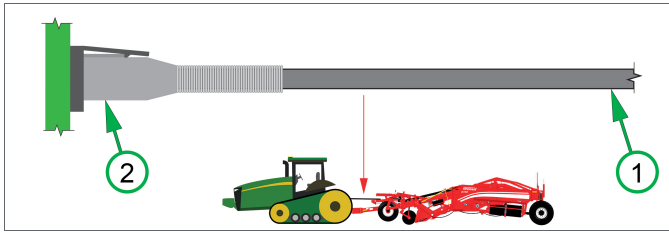

Figure 6
Connect the (2) Tractor Lighting connector on the windrower (1) Tractor Lights cable into the Tractor Lights port on the back of the tractor. (See Figure 6)